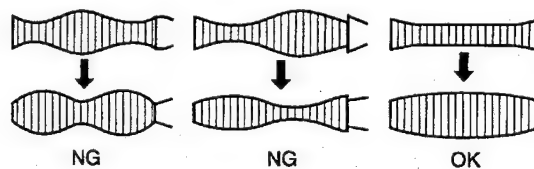

Fig. 2-1-83 Abnormal waveform variation
7. If the envelope varies like NG figures as shown in Fig. 2-1-83, perform the adjustment again. Smooth secondary curves are allowable level.